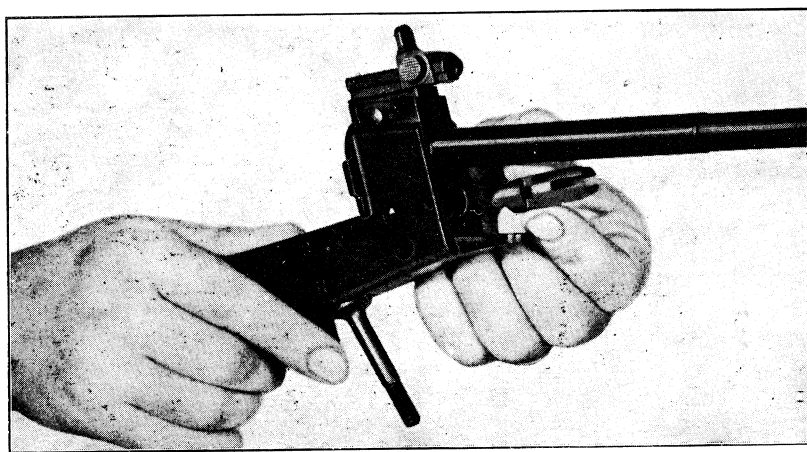

Fig. 122
Remove the frame lock from its housing (fig. 122).
- Replace the lock as shown in fig. 122.